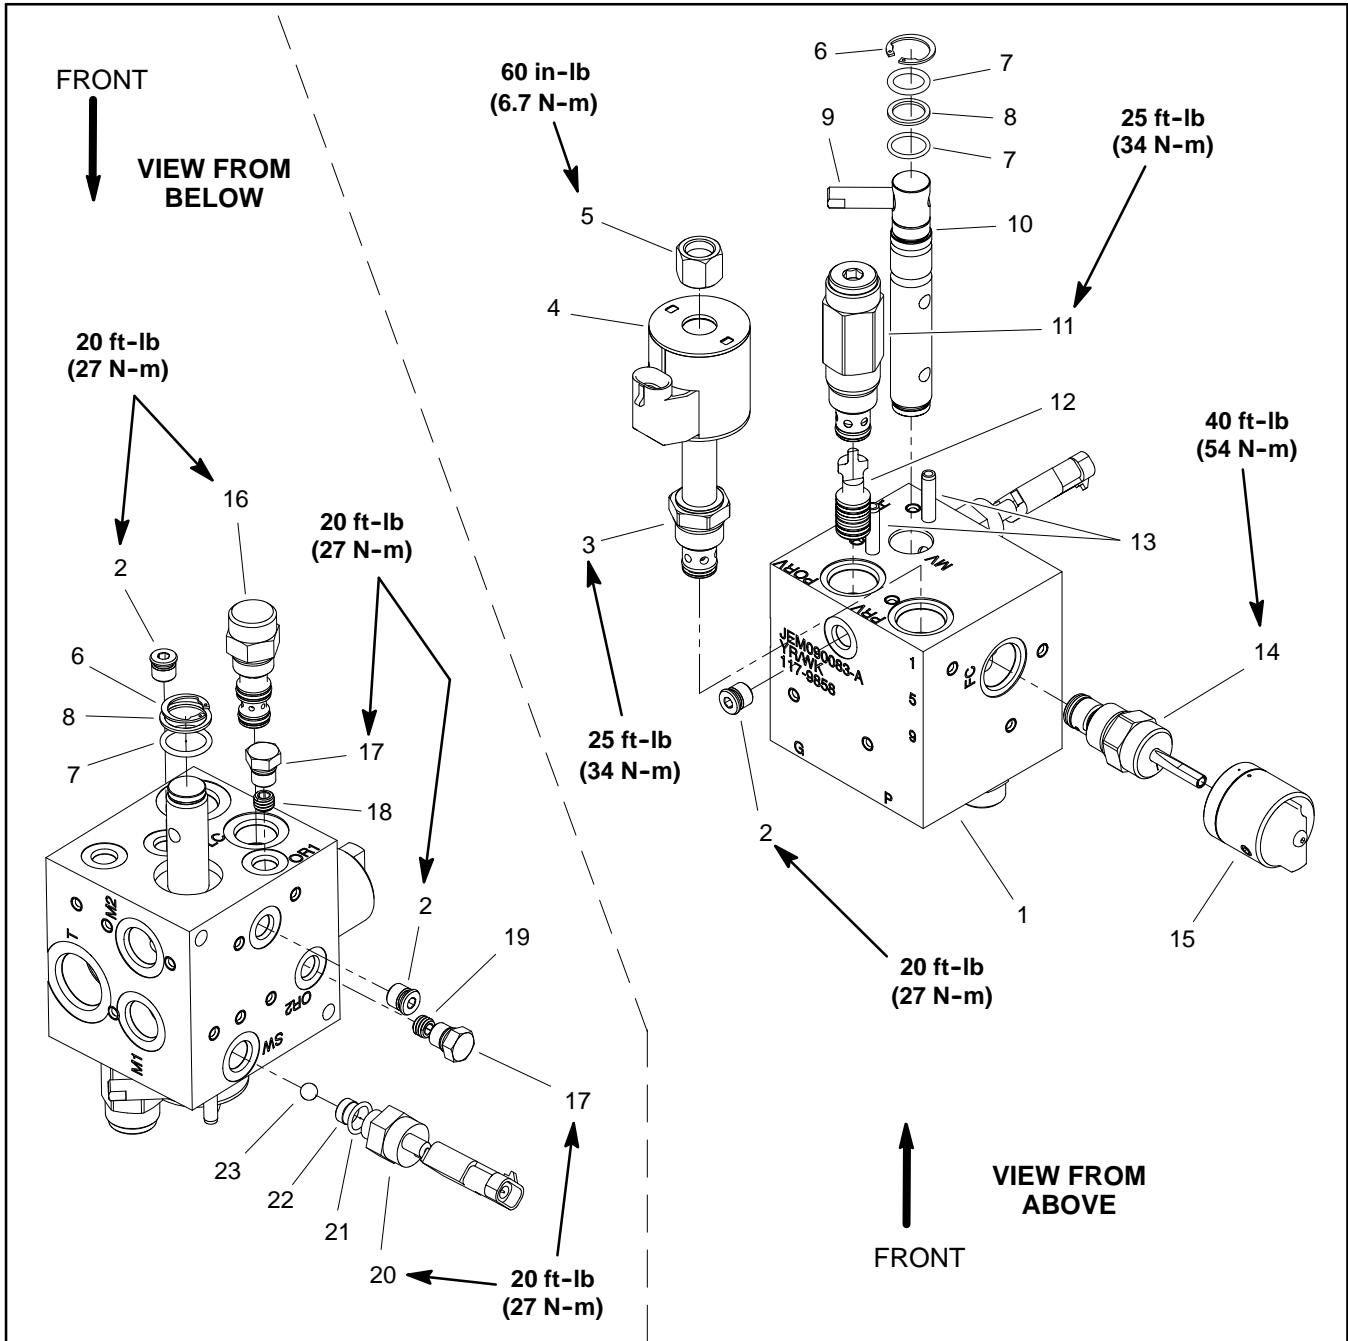

Figure 65
**NOTE:** The hydraulic manifold shown in Figure 65 uses several zero leak plugs. These plugs have a tapered sealing surface on the plug head that is designed to resist vibration induced plug loosening. The zero leak plugs also have an O-ring to provide a secondary seal. If zero leak plug removal is necessary, lightly rap the plug head using a punch and hammer before using an allen wrench to remove the plug; the impact will allow plug removal with less chance of damage to the socket head of the plug. When installing plugs into the manifold, torque plugs to the values identified in Figure 65.
**IMPORTANT:** A flow control orifice (items 18 and 19) is located beneath the plugs in mow manifold ports OR1 and OR2. If either of these plugs is removed from the manifold, make sure to remove orifice and label its position for assembly purposes. When installing the orifice in the manifold, make sure that the orifice is flat in the base of the port. Manifold damage is possible if the orifice is cocked in the port.
For cartridge valve service procedures, see Control Manifold Cartridge Valve Service in this section. Refer to Figure 65 for mow manifold cartridge valve and plug installation torque.
A. Remove backlap switch from manifold before removing mow/backlap spool (Fig. 65). Remove shim and ball from manifold port after switch is removed. Remove and discard O-ring from switch.